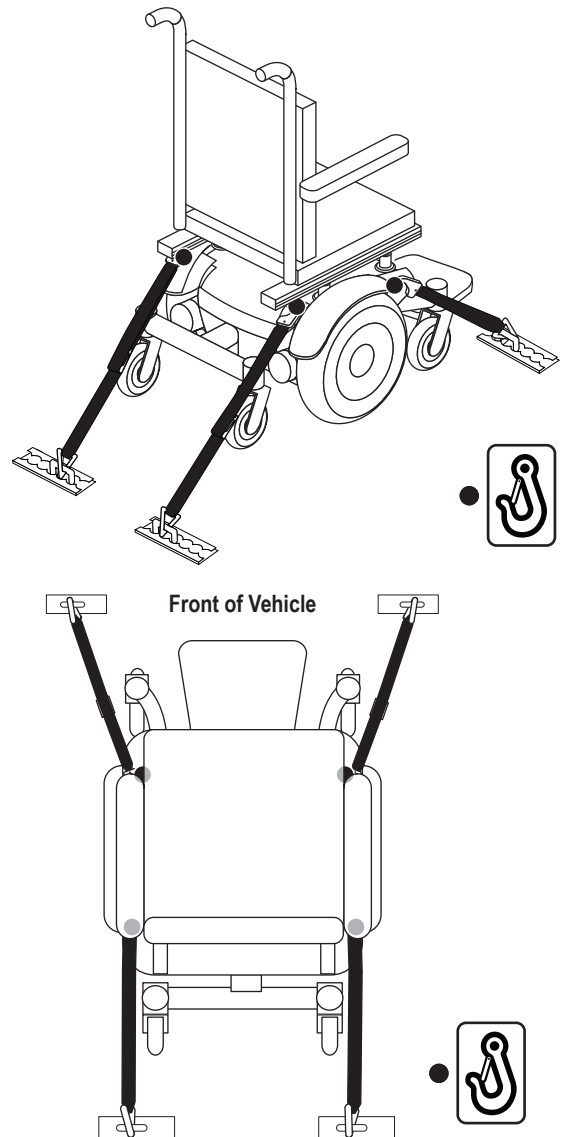

Figure 11. Unoccupied Transit System Securement Points
- Position the anchor point for the rear tie-down straps directly behind the rear securement points on the power chair. The front tie-down straps should be anchored to floor points that are spaced wider than the power chair to provide increased stability. **See figure 11.**